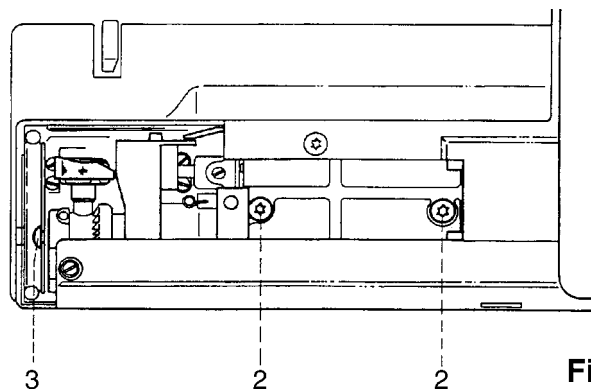

Fig. 2
- Remove the two fastening screws 2 of the upper free-arm cover (fig. 2).